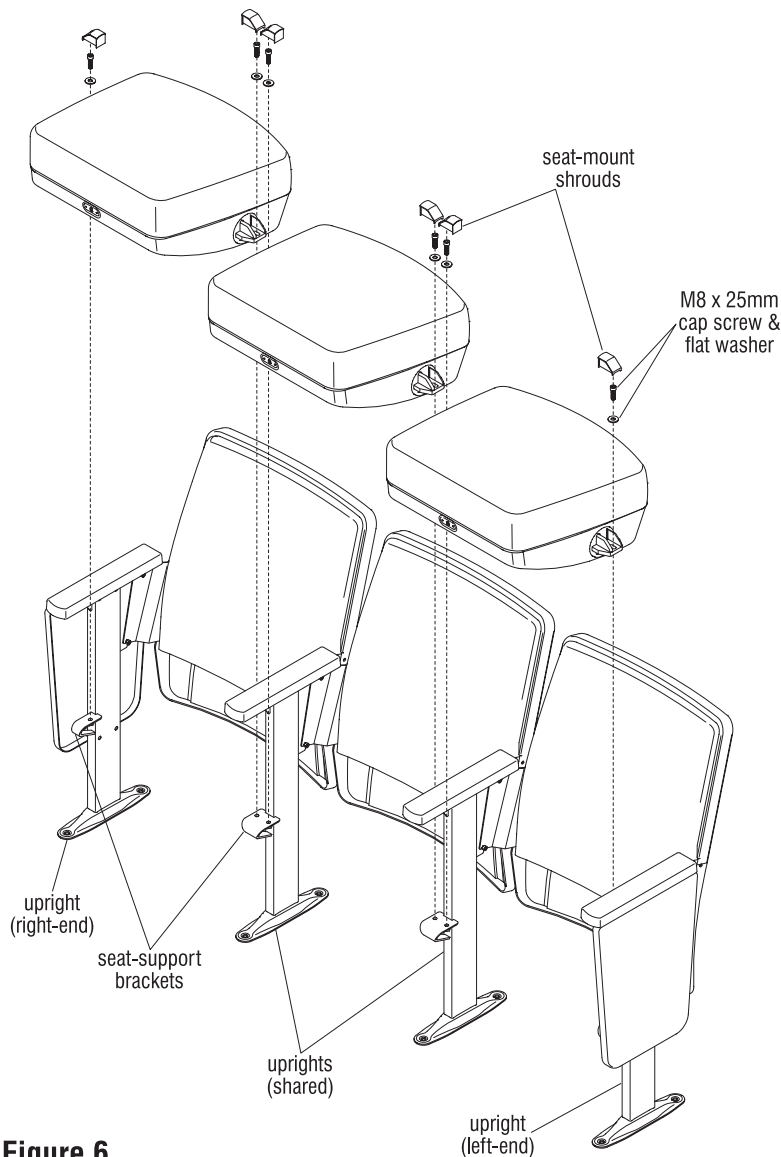

Figure 6
1. Starting at one end of a row and one seat at a time, position a seat assembly onto the two seat support brackets of the uprights. Align the mounting holes of the assembly with the holes of the brackets. Place a flat washer on a M8 x 25mm cap screw and loosely attach the seat assembly points to the seat support brackets. Do not tighten fully at this time (Figure 6).
2. When all seats of a row are loosely attached, tighten all M8 x 25mm bolts in the row securing seats to upright support brackets. Check for free seat rotation up and down and adjust if necessary. Install all seat-mount shrouds to seat support brackets by snapping into place (Figure 6).